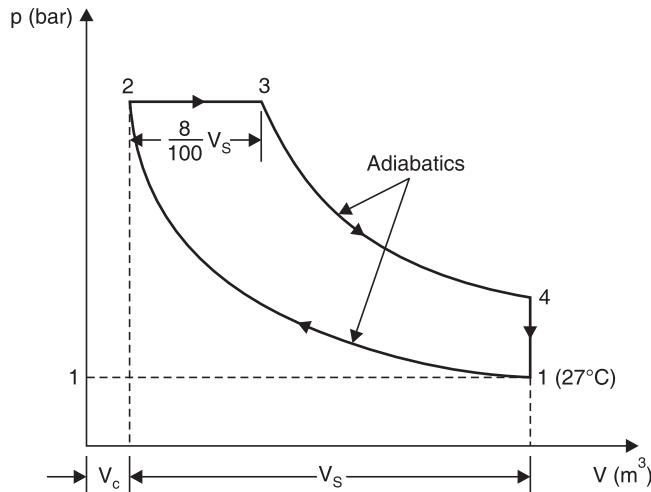

Fig. 4.17
**Solution.** Refer to Fig. 4.17.